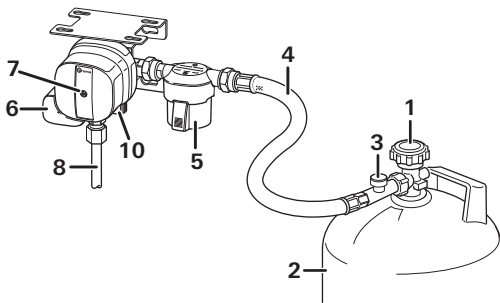

Figure 1a
- Connect the gas cylinder (2) and ensure that the hose connection is in perfect condition.
- Open the cylinder valve (1).
- Firmly press the hose rupture protection (figure 1a – 3) on the high-pressure hose for about 5 seconds.
- If the yellow reset button (7) is not pressed (“not ready for operation” position), reset the crash sensor.
- Close the valve (1) of the empty gas cylinder (2).
- Remove the high-pressure hose (4) from the gas cylinder (2) and remove the clip-on adapter, if present.
- Open the full gas cylinder's valve (1).
- Press the hose rupture protection (figure 1a – 3) and if necessary the yellow reset button (7), turn it slightly clockwise and hold it for 10 seconds.